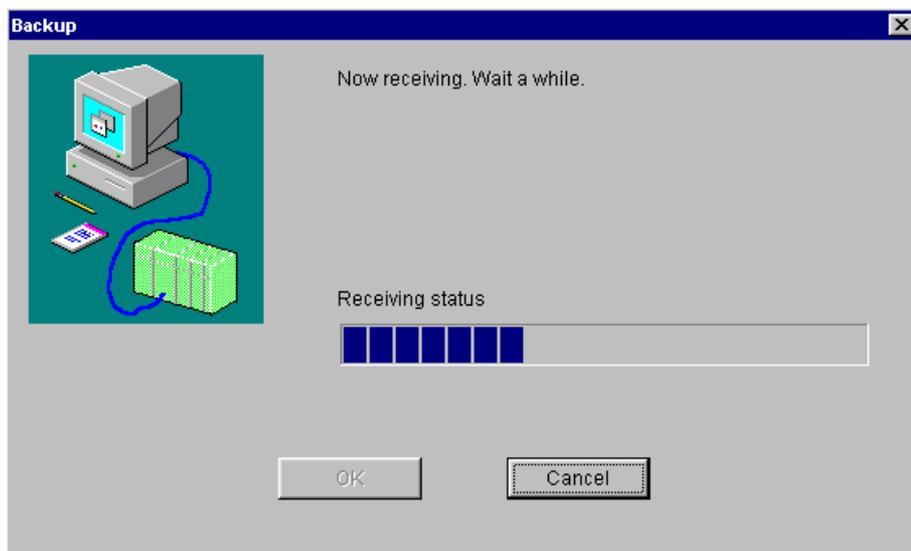

Figure 3-6 [Backup] Window (Backup Progress Status)
(6) The window indicating the backup in process (Figure 3-6) is displayed.